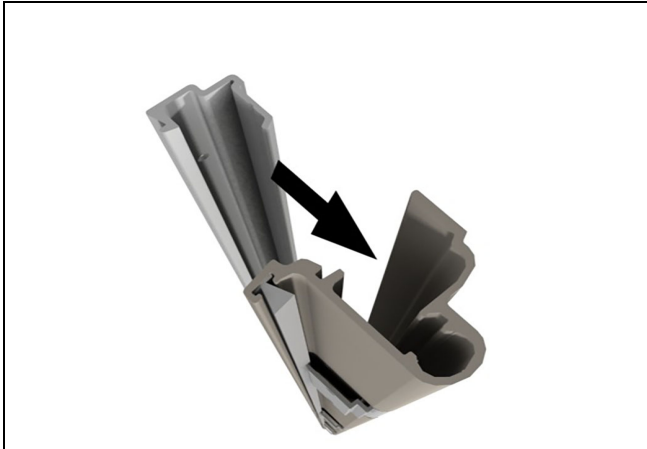

Figure 12
1. Assemble the jamb adapter to the z-bar by snapping the extrusions together. See Figure 12.